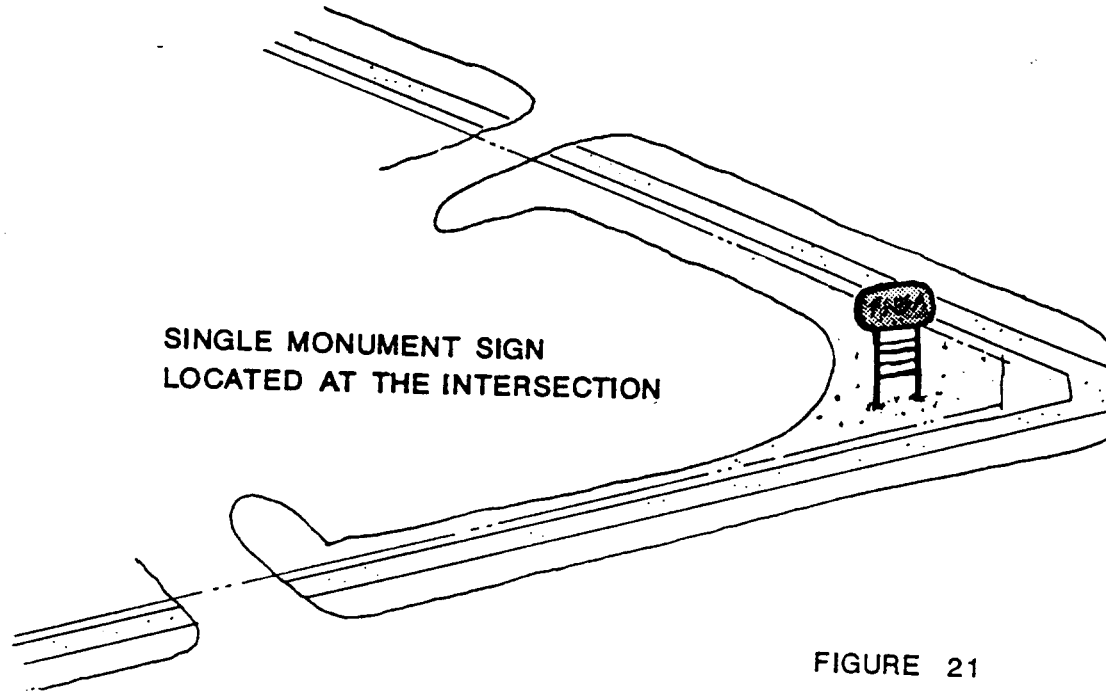

FIGURE 21
2. One monument sign at the intersection, but clearly out of the line of sight triangle as defined in the Thoroughfare Standards Ordinance (see Figure 21);